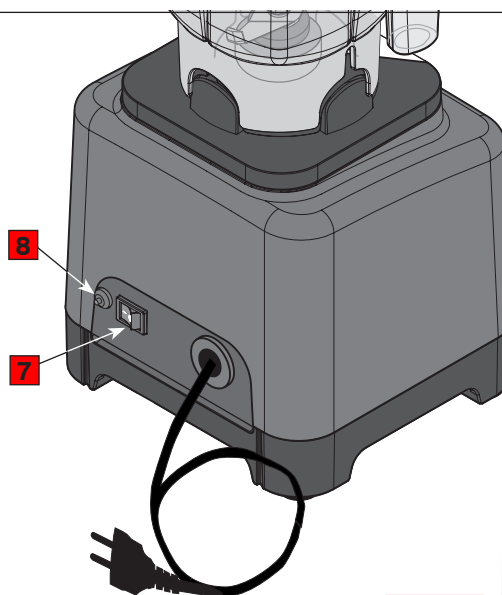
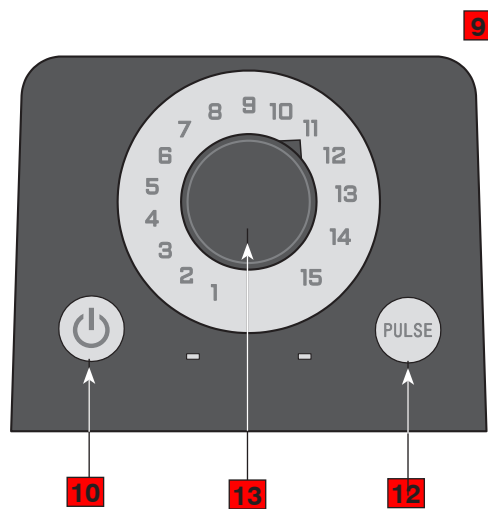

Fig. 2
Fig. 4
**BLENDER B180, B185, B280 and B284****Main parts of the appliance (Fig. 1, Fig. 1a, Fig. 2, Fig. 3, Fig. 4)**